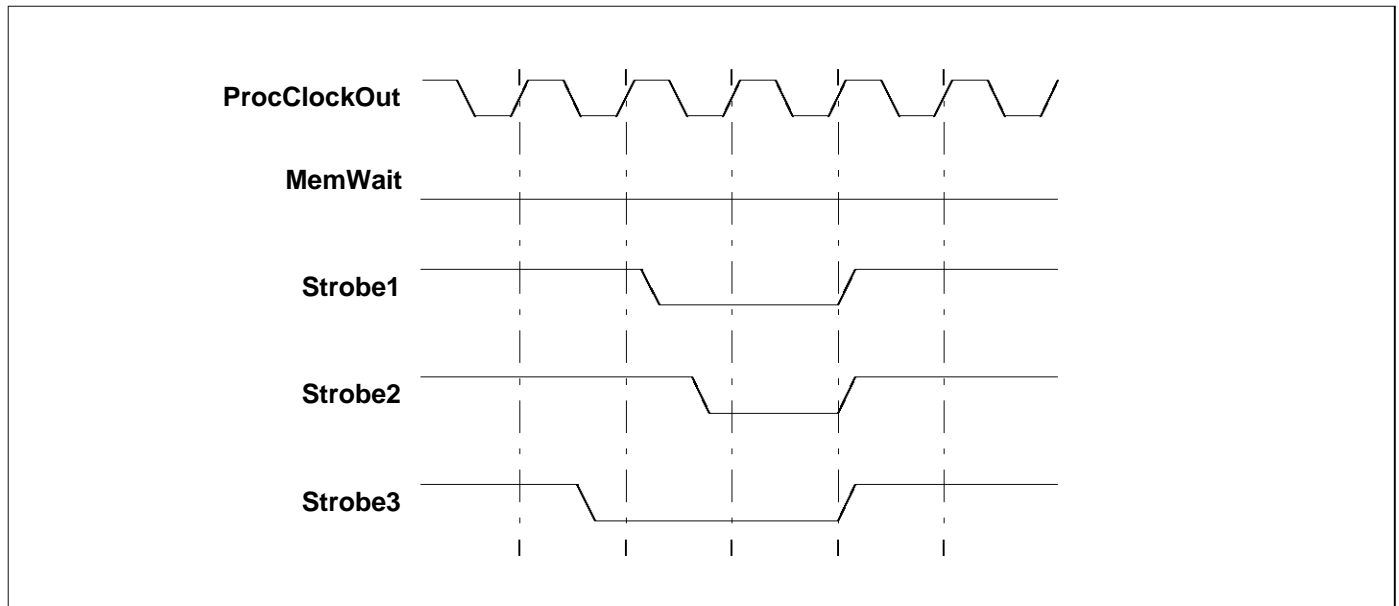
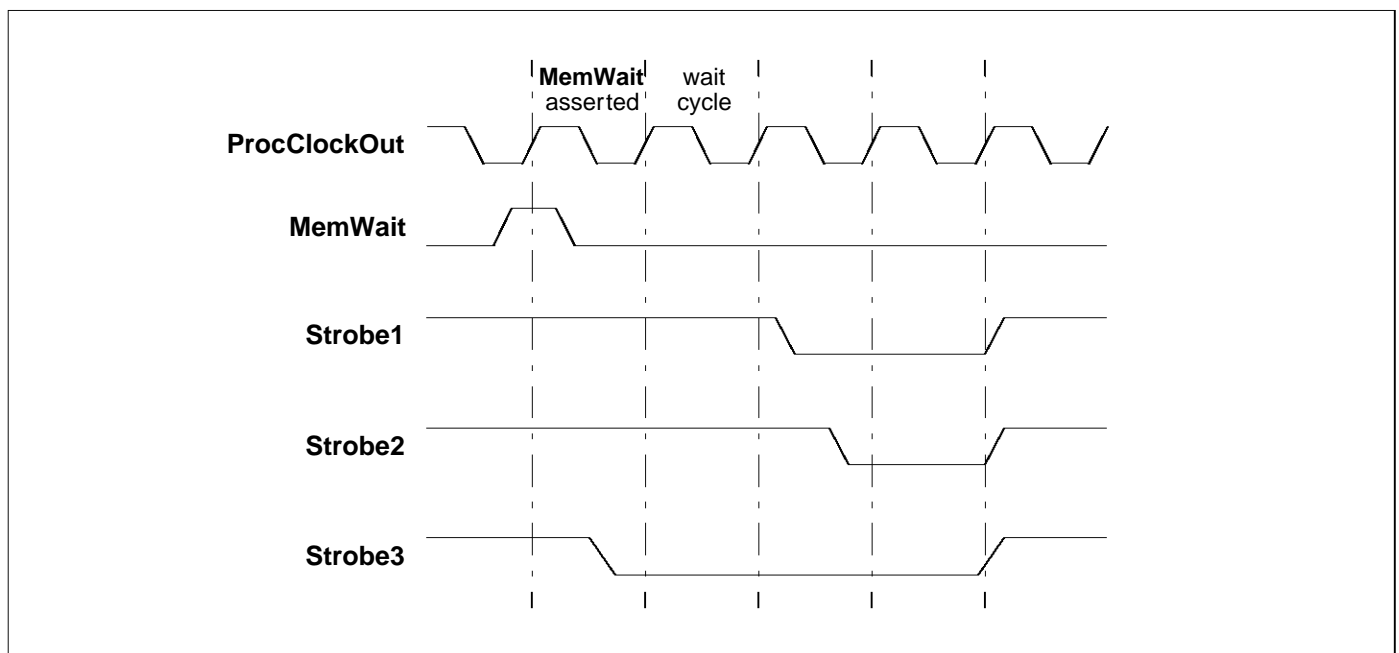

Figure 9.5 Strobe activity without **MemWait**
Figure 9.6 Strobe activity with **MemWait**
**MemWait** is provided so that external cycles can be extended to enable variable access times (for example, shared memory access). **MemWait** is sampled on a rising clock edge before being passed into the EMI. It is only effective when the EMI is in the RAS or CAS times and has the effect of holding the RAS and CAS counter values for the duration of the cycles in which it was sampled high. Any strobe transitions occurring on the sampling edge or the falling edge immediately after will not be inhibited, but transitions on the rising and falling edges of the cycle after will not occur. Figure 9.5 and Figure 9.6 show the extension of the external memory cycle and the delaying of strobe transitions.